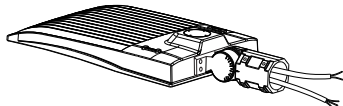

Figure 2
- Step 2: Install the bracket on the fixture. (Figure 2)